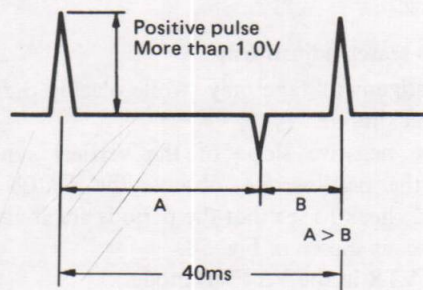

Figure 54
- ① Place the VTR in the Playback mode.
- ② Observe the main servo circuit Pin 10 through the oscilloscope and check to see that both the Playback and control signal remain in the value (more than 1.0 V of the positive pulse), as shown in Fig. 54.